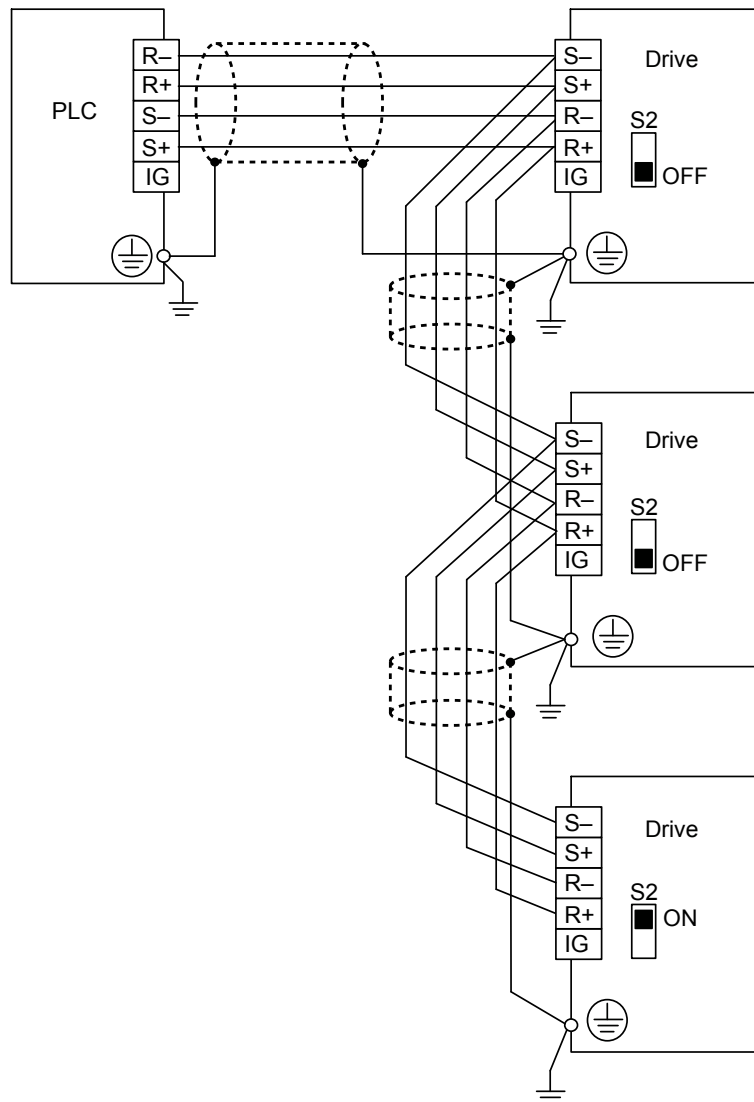

Figure C.4 RS-422 Interface
*Figure C.3* and *Figure C.4* explain the wiring diagrams for multiple connections using MEMOBUS/Modbus communication.